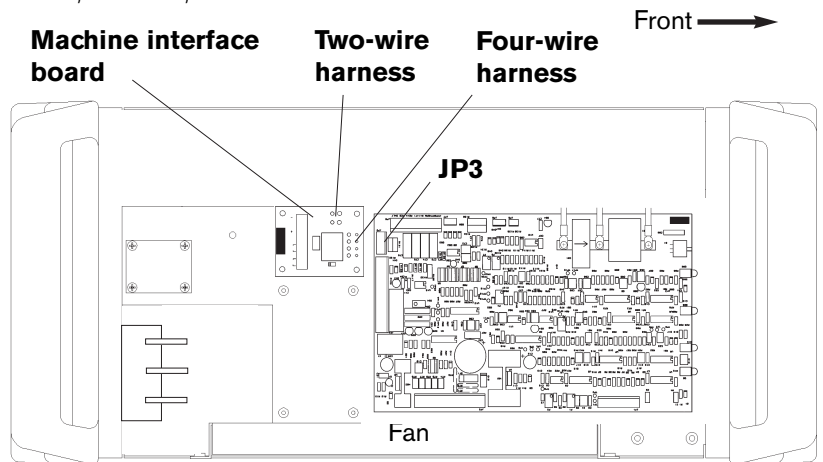

Figure 3 - Machine Interface Board Installation
5. Orient machine interface board with the attached four-wire harness facing the Powermax800 control board connector JP3 as shown in Fig. 3.
7. Attach the four-wire harness to the Powermax800 control board connector JP3 – Fig. 3.